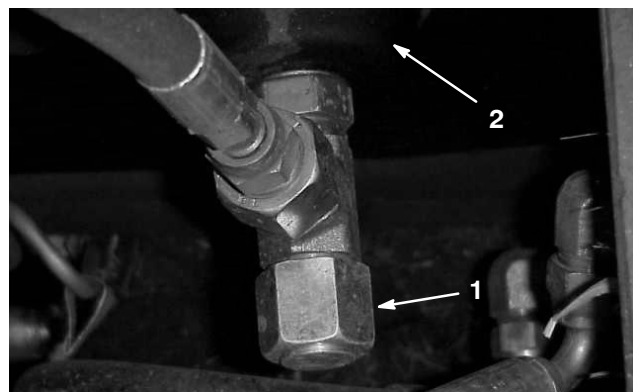

Figure 50
2. Locate plugs at right rear behind front wheel, at rear center and front center of reservoir (Fig. 50).
1. Place drain pan under reservoir. In turn, remove all 3 drain plugs and let oil drain into pan (Fig. 50).